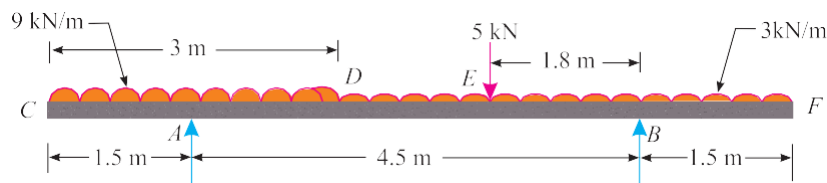

Fig.3
4. a) Draw the SFD & BMD for the overhanging beam shown in fig. 3. Show all the calculations. 10